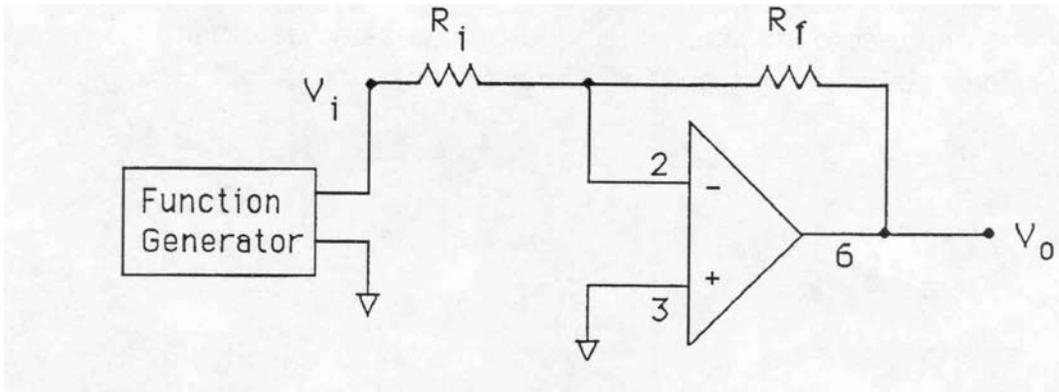

Figure 9.6: Inverting amplifier circuit 9.5.2.
9.5.2 Inverting Amplifier - Circuit 9.5.2 Assemble the circuit shown in Figure 9.6, again measuring the actual resistance values first. The input-output relationship for this circuit is given by